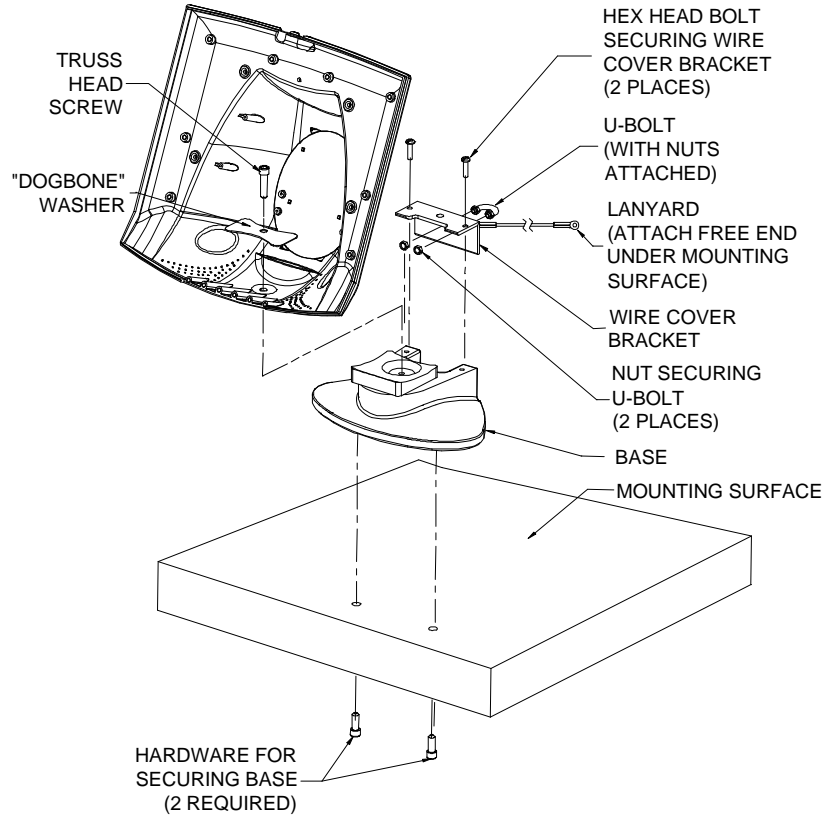

FIGURE 9 - TWO HOLE MOUNT - TABLE OR BAR TOP MOUNTING OF TERMINAL
2. Using the supplied template (PM0362-01) drill the 2 holes marked "A" on the template. After drilling the holes, secure the base to the bar with 1/4" x 20 screws long enough for your mounting surface. See Figure 9.
3. Secure the terminal to the base with the supplied "dogbone" washer (with the hole in the "dogbone" washer closest to the front of the terminal) and truss head screw (3/8 - 16 x 1 1/4 L) as shown in Figure 9. Tighten the screw until the "dogbone" washer conforms to the shape of the terminal.
4. Attach the 2 nuts to the U-bolt and then secure the U-bolt and the lanyard to the wire cover bracket using the 2 kepnuts as shown in Figure 9.